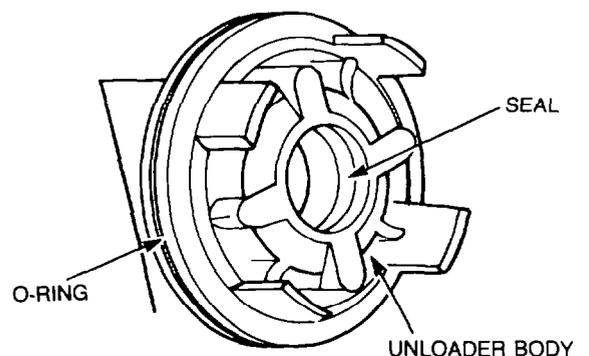

Figure 230 — Unloader Body
- f. Remove and discard the O-ring and the seal from the unloader body (see Fig. 230).